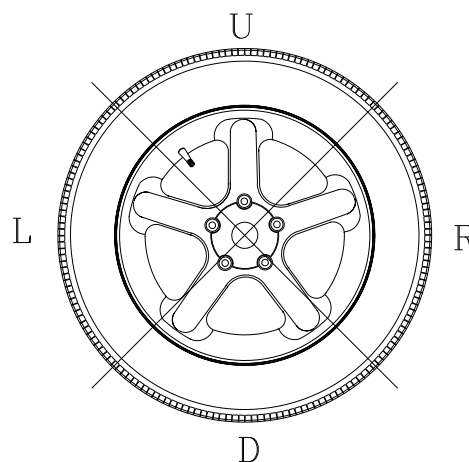

Figure 25
C. The wheel weight could have been placed at a wrong position. To check this, position the wheel at the correction position for the outer plane. If the wheel weight previously attached is in sector ‘L’ or ‘R’ (Figure 25), move the wheel weight up about 1” (2.54cm).